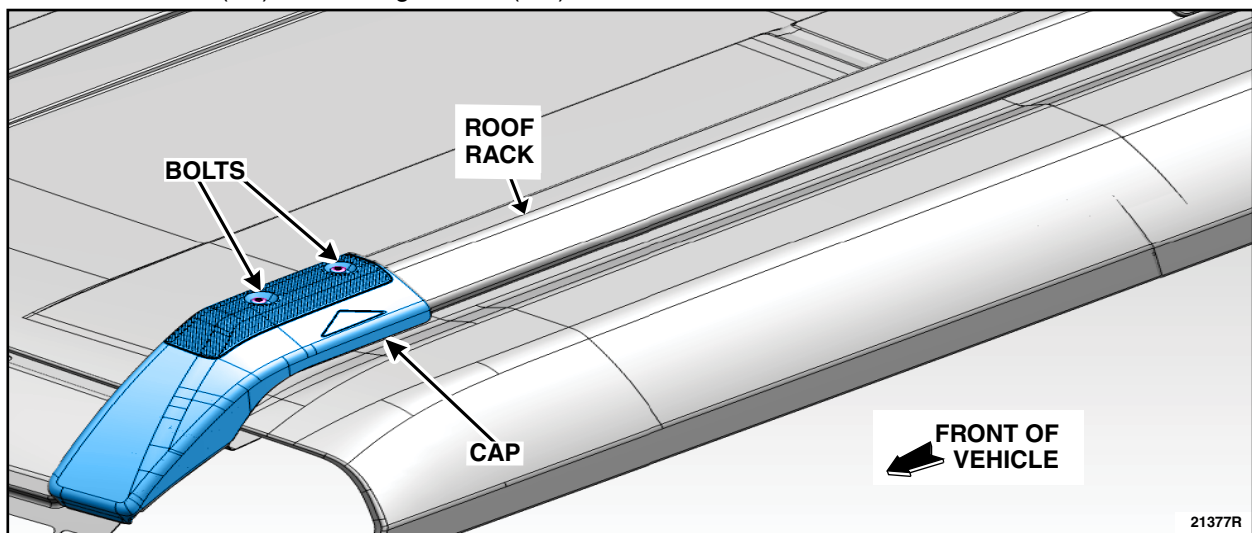

FIGURE 10
2. Remove the bolts and the cap from both sides of the front of the roof rack. See Figure 10.